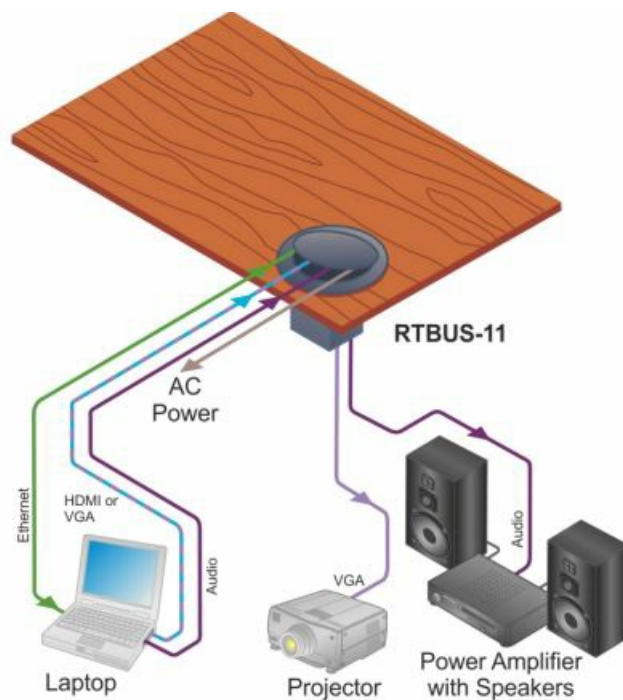

Figure 4: RTBUS-11 Boardroom Installation
- Once the RTBUS-11 is installed, you can easily customize it to your own needs by plugging in the required AV equipment, as illustrated in the example in Figure 4.